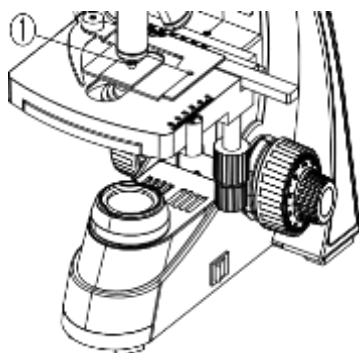

Fig.15
2. Place a drop of oil① on the specimen (see Fig. 15).